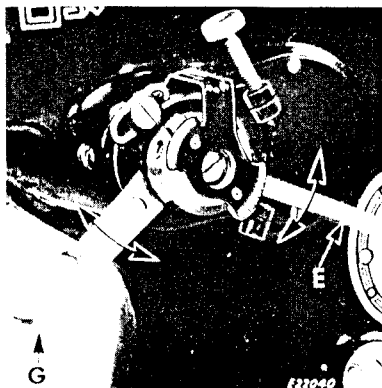

Fig. 30
**SETTINGS:** Bight control lever **E** at **lowest** point and position lever **G** at any one of the infinite settings between the central and the left-hand positions of the needle, as shown in Fig. 30.